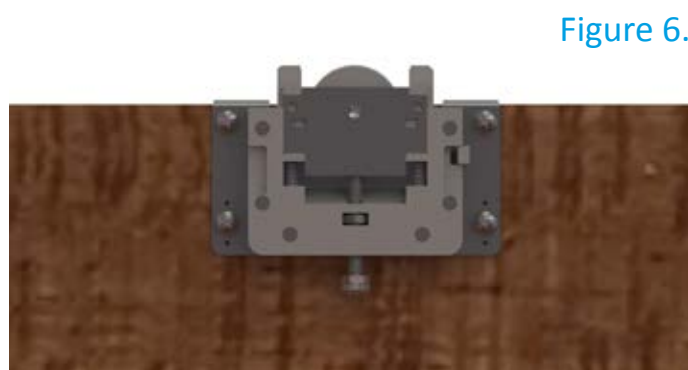

Figure 6.
4. Fix the upper rollers onto the inner door/s using the screws as guided in **Figure 6**.